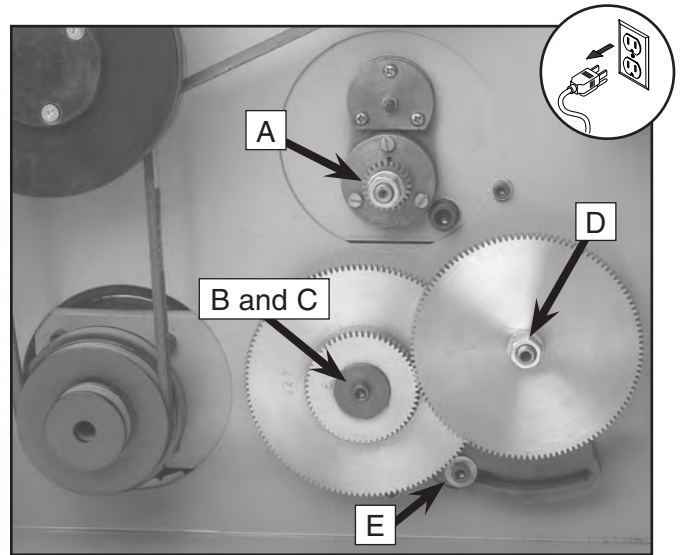

Figure 42. Socket head screw and support bracket with the gears in lower position.
2. Remove the nuts on the end of the shafts for gears A and D (see **Figure 42**).